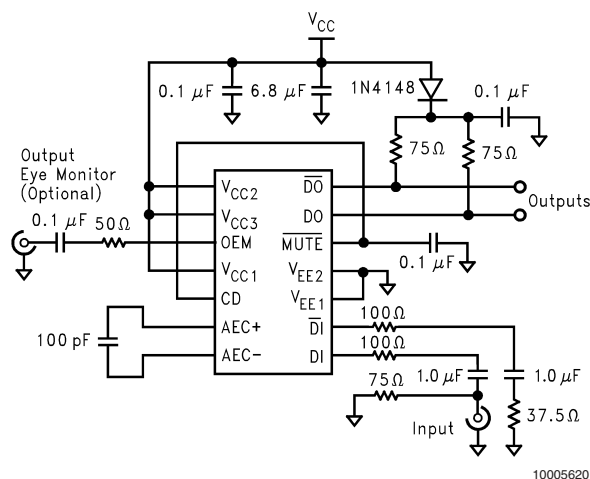

FIGURE 1. CLC014 Equalizer Application Circuit
**Carrier Detect (CD)** is a CMOS output that indicates the presence of equalized data from the filter. This CD output can be connected to  $\overline{\text{MUTE}}$  to suspend changes in the data outputs DO and  $\overline{\text{DO}}$ , if no valid signal exists. This simple configuration prevents random output transitions due to noise. For sparse transition patterns it is recommended that a capacitor be connected to CD as shown in Figure 1.
The OEM is a high-speed, buffered output for monitoring the equalized eye pattern prior to the output comparator. Its output is designed to drive an AC-coupled 50 ohm coaxial cable with a series 50 ohm backmatch resistor. The cable should be terminated with 50 ohm at the oscilloscope. Figure 1 shows a schematic with a typical connection.
The CLC014 operates from either +5V or -5.2V single supplies. Refer to *Figure 1* when operating the part from +5V. When operating with a -5.2V supply, the  $V_{EE}$  pins should be bypassed to ground. The evaluation board and associated literature provide for operation from either supply.